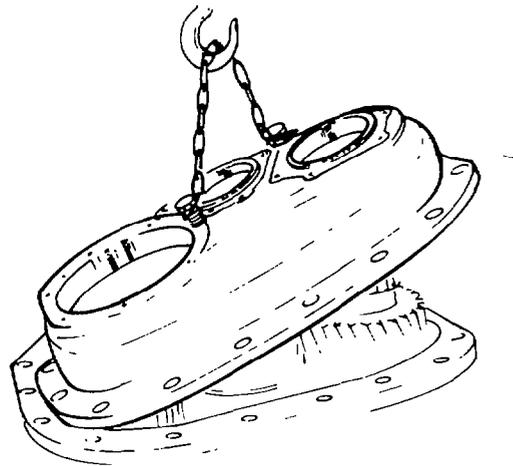

Fig. 228 — Removing Rear End Plate
- t. Remove the transfer case rear end-plate retaining bolts. With the aid of suitable lifting equipment remove the rear end-plate from the transfer case (see fig. 228).